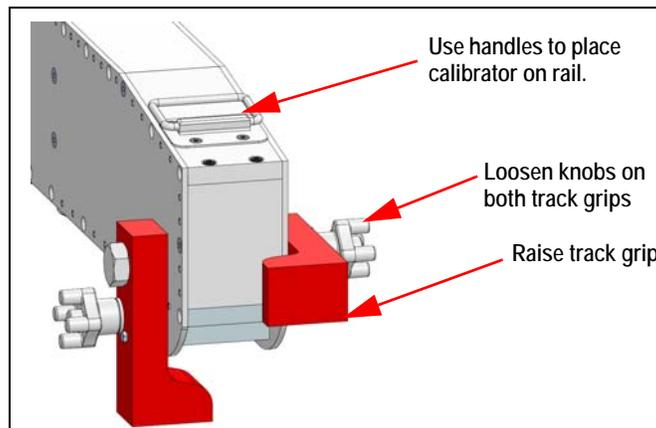

Figure 1. RailBoss Calibrator Track Grips
1. Ensure track grips are arranged as shown in Figure 1 prior to placing the *RailBoss Calibrator* on the track.